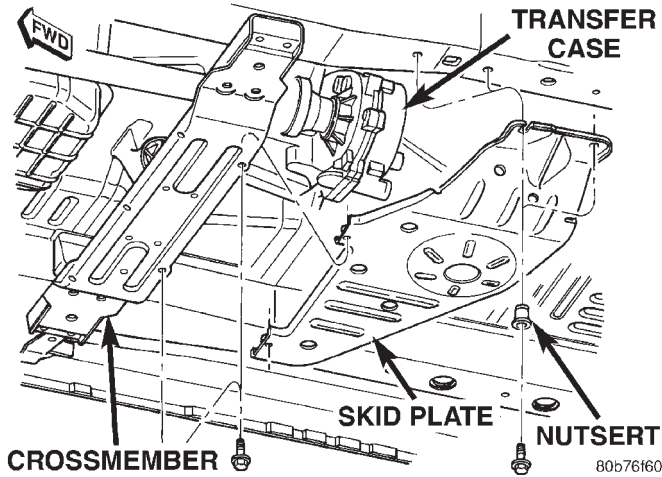

Fig. 3 Transfer Case Skid Plate
- (1) Support skid plate.
- (2) Remove bolts that attach skid plate to transmission support crossmember and frame sill (Fig. 3).
- (3) Remove support and skid plate from vehicle.